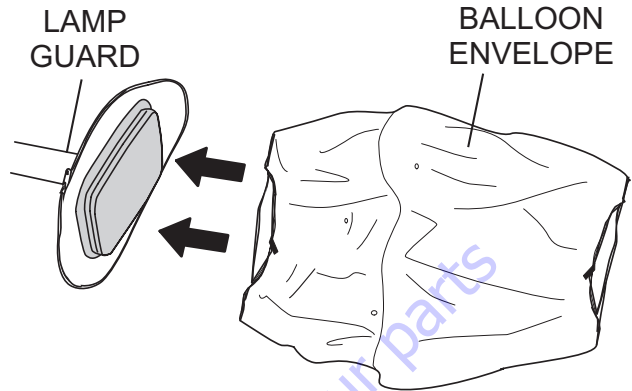

Figure 26. Installing New Balloon Envelope
3. Slide the new balloon (Figure 26) envelope over the top of the lamp guard assembly.